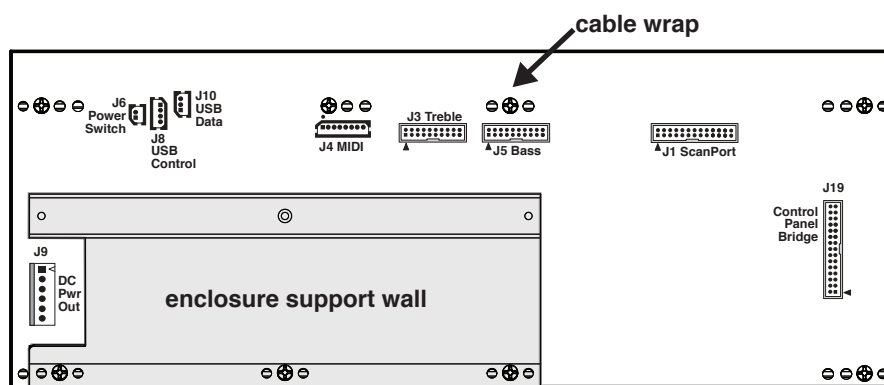

Figure 4-7 SP5-8 Right Front Panel PCB hardware locations
7. Unwrap the tab of the cable wrap (see Figure 4-7) so that you can move the bundled cables.